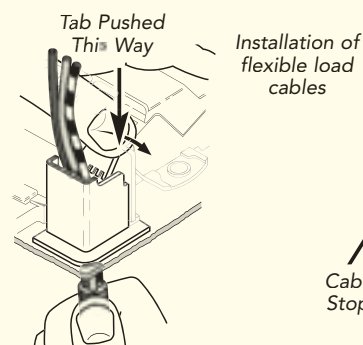

Figure 7a
5. To assist pushing the load cable through the front of the product, ease the clamping jaw pressure by holding the product securely in one hand and pushing the tab firmly with your thumb in the direction shown in fig. 7a.